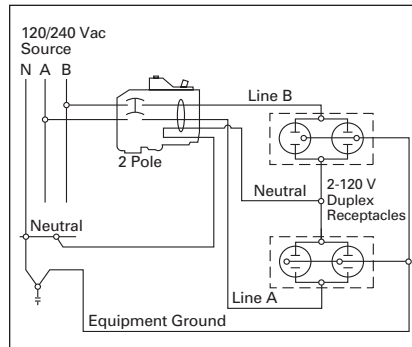
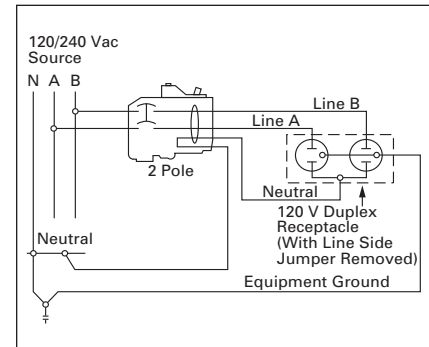

Figure 3-3. 2-Pole Shared Neutral with Multi-Duplex Receptacle Application
Figure 3-5. 2-Pole Shared Neutral with Duplex Receptacle Application
③ Independent trip refers to 2-pole multi-wire, home run or shared neutral circuits (see **Figure 3-3** and **Figure 3-5**).